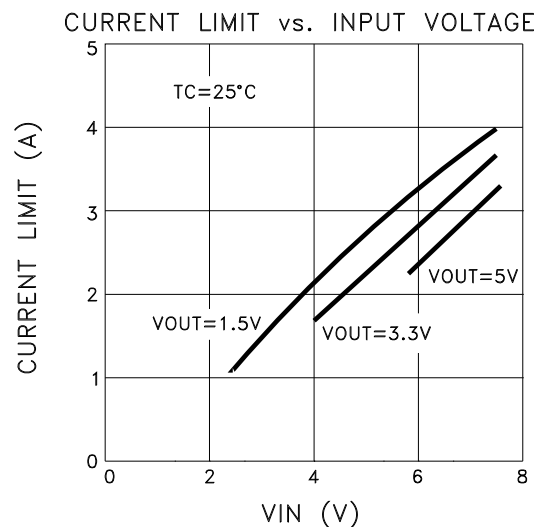

FIGURE 1
- ⑦ Output current limit is dependent upon the values of VIN and VOUT. See Figure 1 and typical performance curves.
- ⑧ Minimum VIN at -55°C and IOUT = 1.0A is 4.0V due to current limit circuitry.
- ⑨ Continuous operation at or above absolute maximum ratings may adversely effect the device performance and/or life cycle.
- ⑩ Pre and post irradiation limits at 25°C, up to 100Krad TID, are identical unless otherwise specified.
- ⑪ Reference DSCC SMD 5962R05220 for electrical specifications for devices purchased as such.
The MSK 5900RH current limit function is directly affected by the input and output voltages. Figure 1 illustrates the relationship between VIN and ICL for three output voltages.